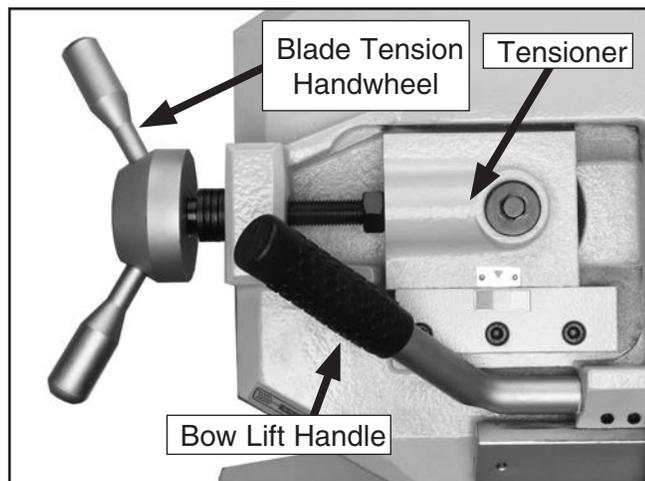

Figure 37. Blade tension handwheel, tensioner, bow lift handle.
- Locate the blade tension handle (**Figure 37**) and add a few drops of oil on the lead screw.